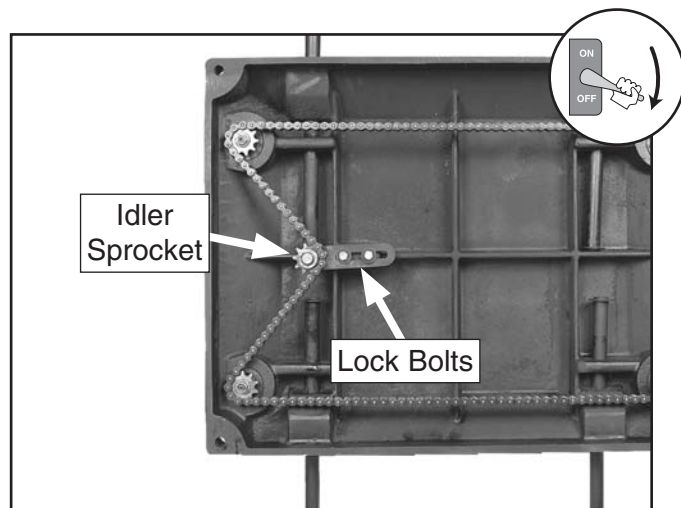

Figure 41. Table height idler sprocket and lock bolts (viewed from underneath the planer base).
2. Remove the front and rear cabinet panels to gain access to the chain system, as shown in **Figure 41**.
3. Loosen the lock bolts shown in **Figure 41**, and push the idler sprocket against the chain with moderate hand pressure, then while maintaining the pressure on the idler sprocket, re-tighten both lock bolts.